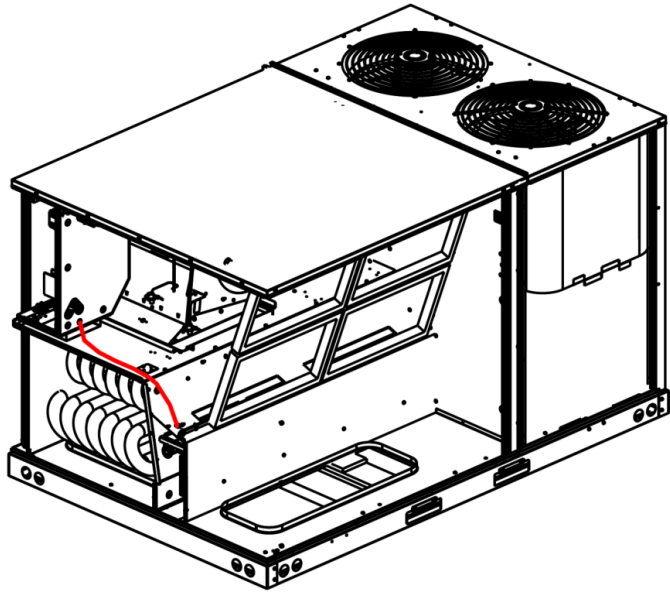

FIGURE 16A
9. Route the 2 way connector from the back of the control box through the bushing on the coil bottom support as shown in Figures 16A through 16G.